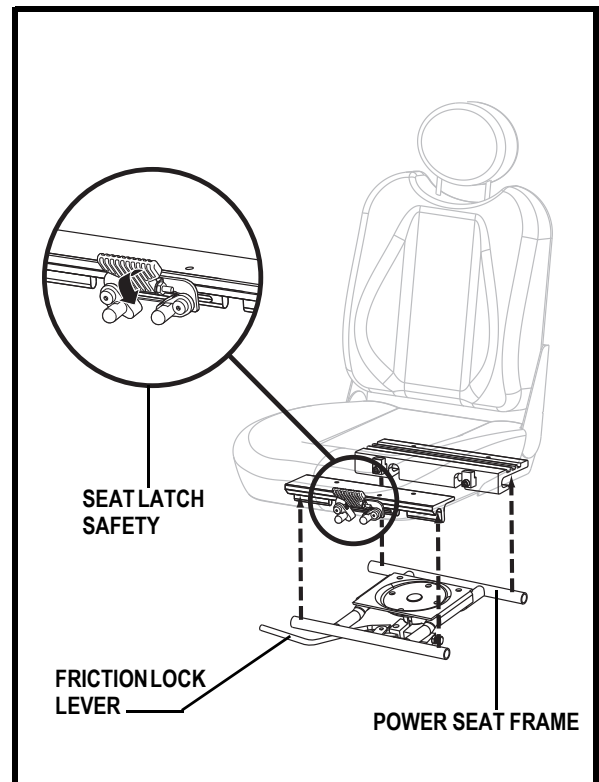
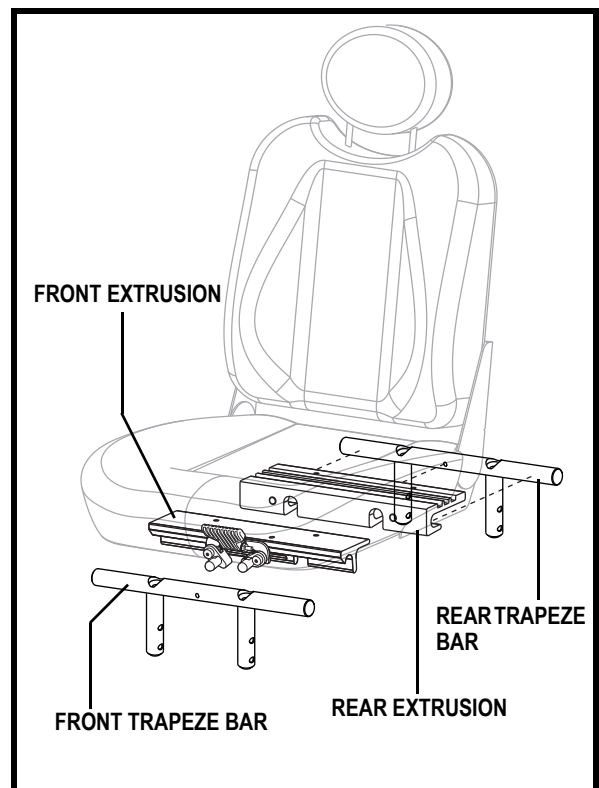

Figure 11. UMS – Power Elevating Seat System
Figure 12. UMS – Optional Seating System
It may be necessary to install the seat either prior to initial operation or after transporting your power chair. Most seats are attached to the power base with the Universal Mounting System (UMS). The UMS consists of universal parts that may be attached to any medium-back or high-back seat, regardless of seat width or seat depth. The two main components are aluminum extrusions mounted to the seat base. These extrusions attach to the power seat frame (see figure 11) or to a pair of trapeze bars that are mounted to the power base (see figure 12).
4. Flip the seat latch safety down. See figure 11.